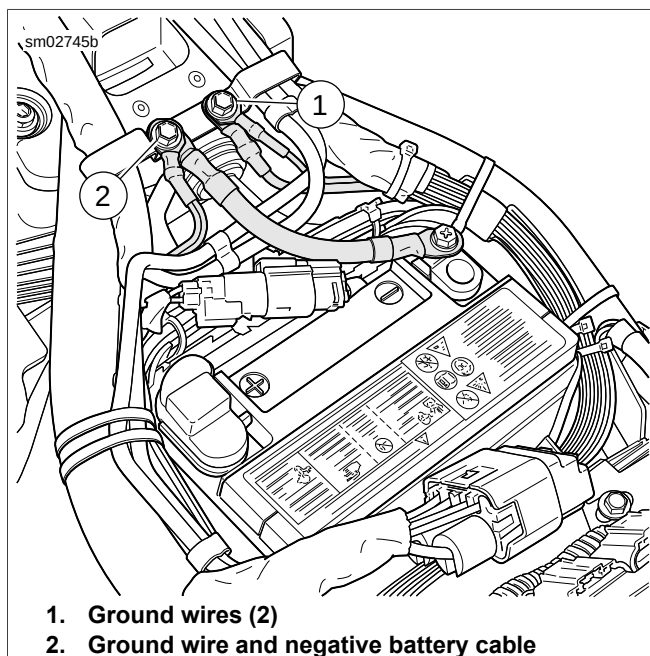

Figure 7-106. Ground Wires and Negative Battery Cable
14. See Figure 7-106. Attach ground wires to frame in front of battery. Negative battery cable attaches to right side post (2). See 7.12 BATTERY CABLES.